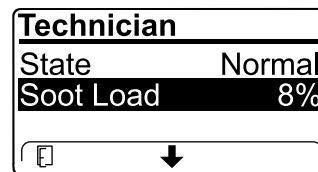

Figure 46
- View the soot load which is measured as the percentage of soot in the DPF (Figure 46); refer to the soot-load table.